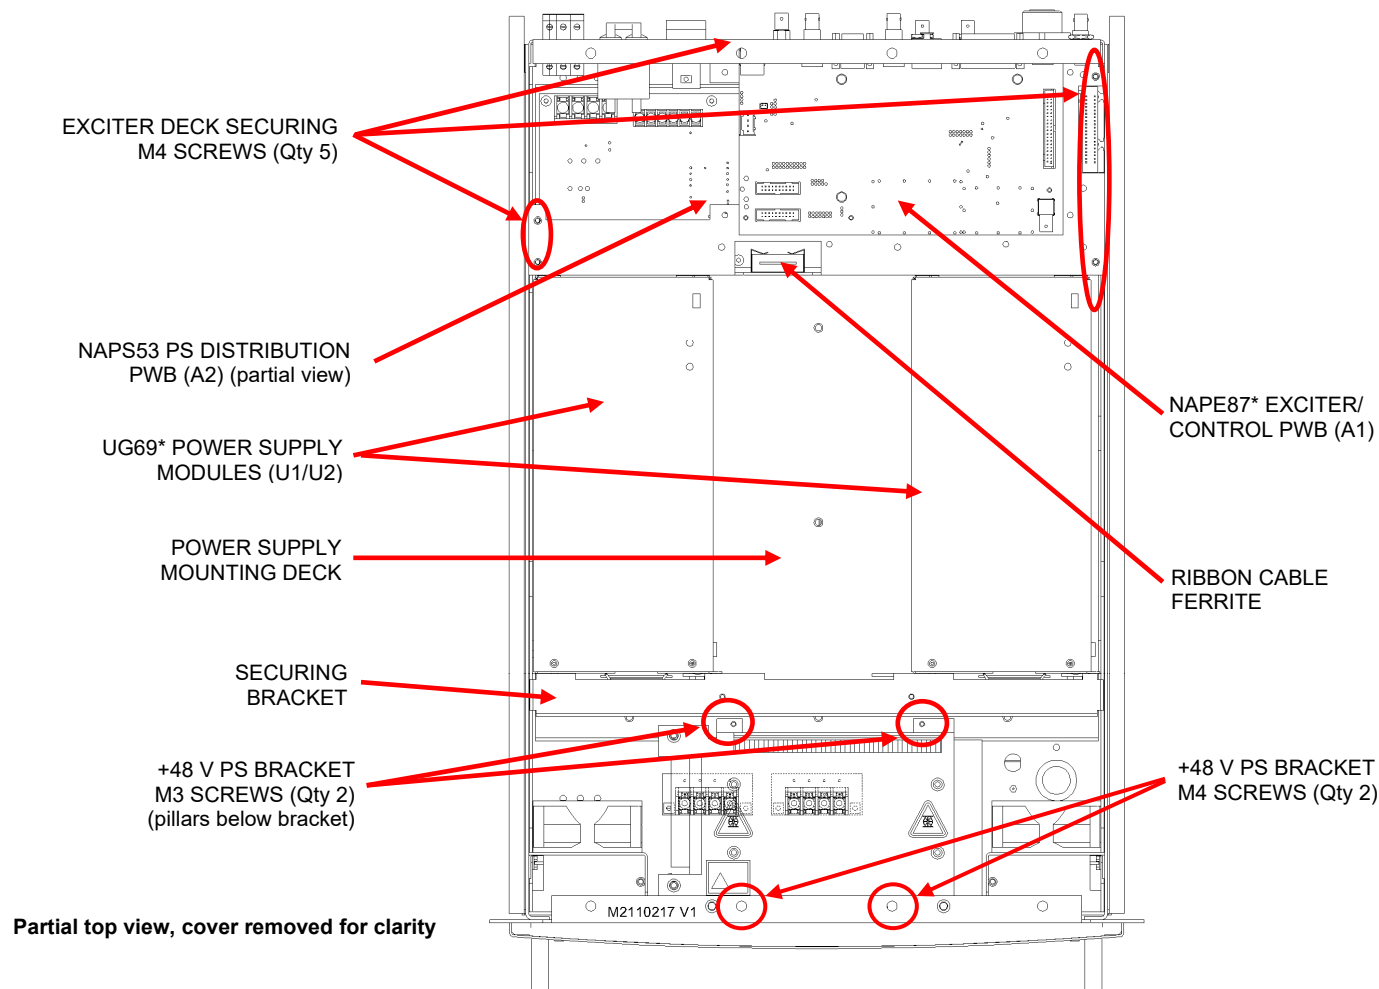
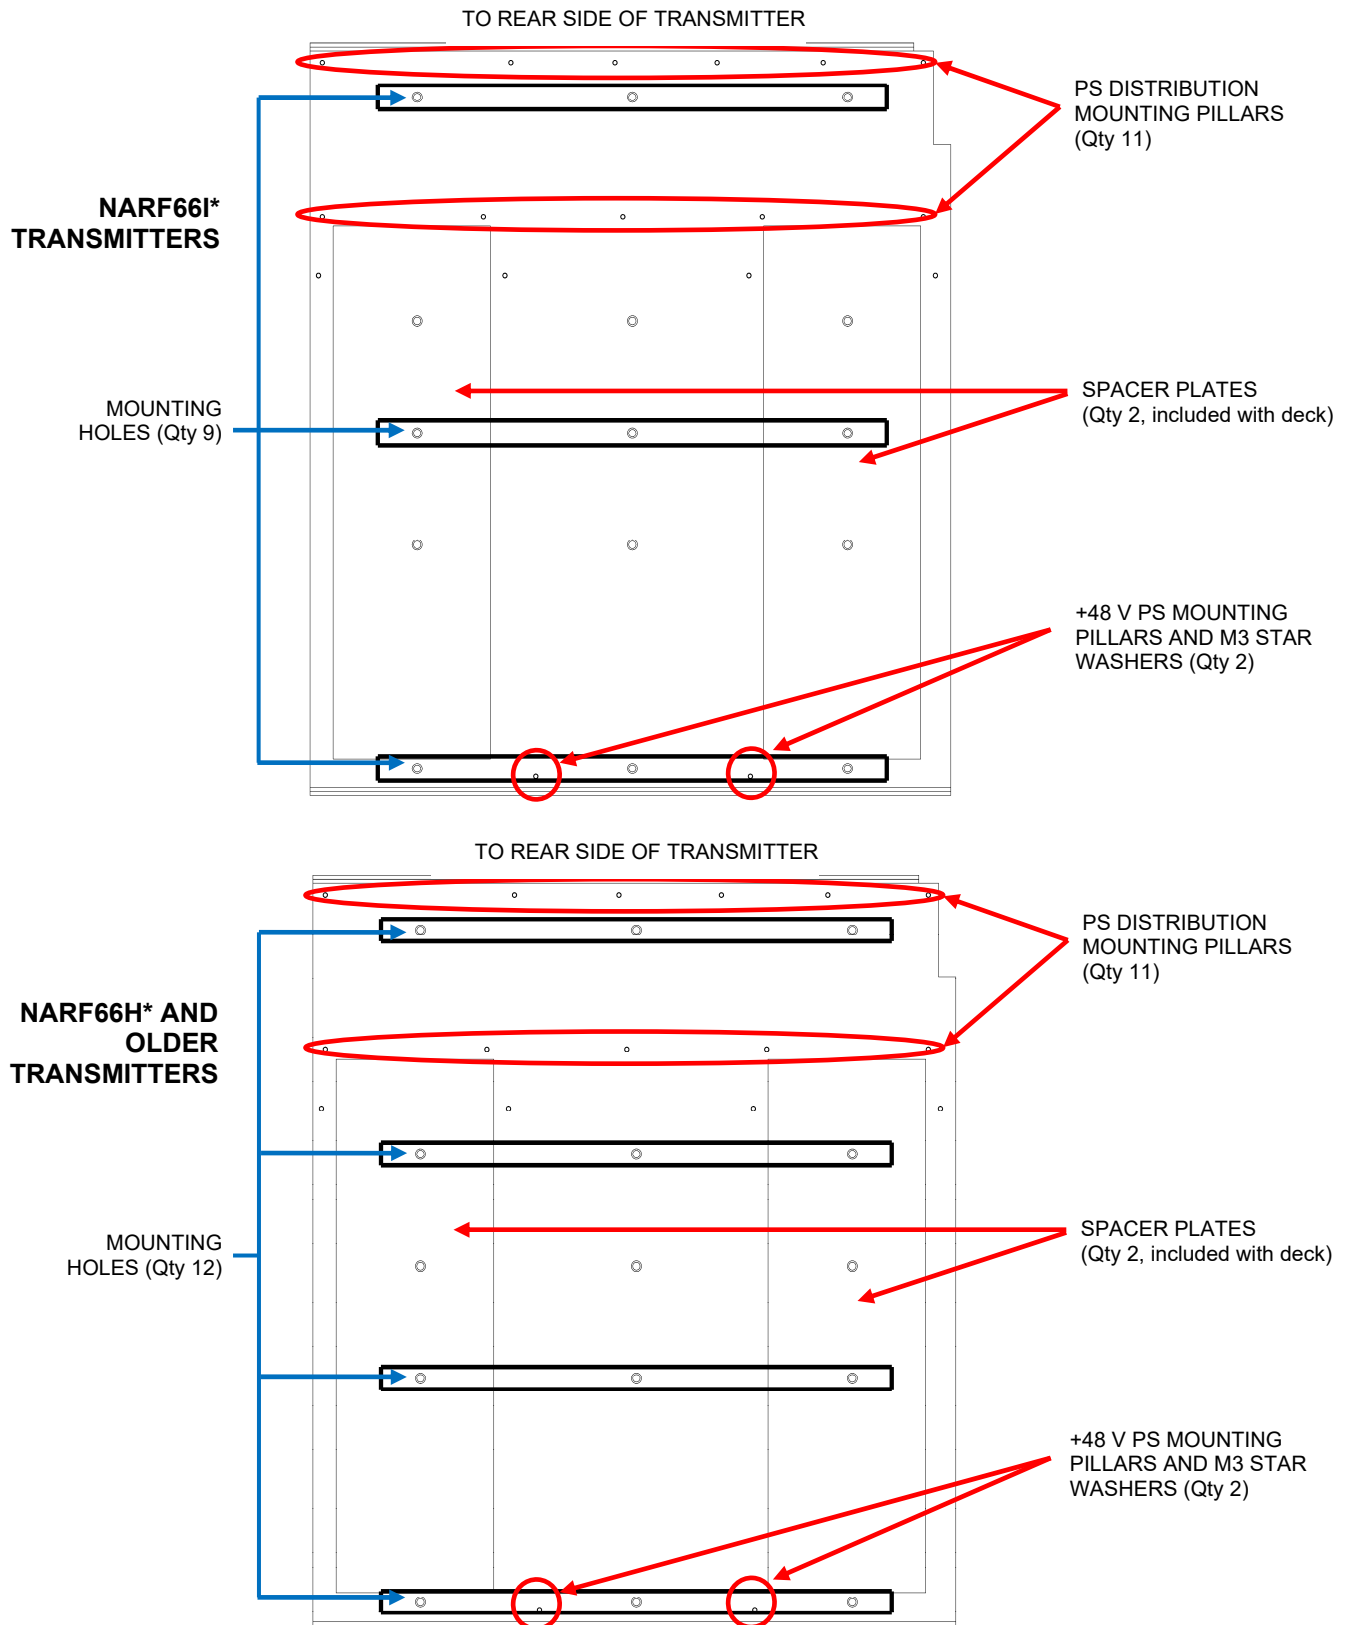

Figure 1: VS2.5 Top View with NAPS53 and UG69*
Figure 3: New Power Supply Mounting Deck
Refer to Figure 1 and Mechanical Drawings MD-1 and MD-4 in Section 6 of the VS2.5's Troubleshooting Manual for reference.
- (b) Remove the securing bracket from the front of the Power Supply Modules (U1 and U2) by removing the two (2) M3 screws in the top of the bracket (see Figure 1) and the two (2) M4 countersunk screws in each side of the transmitter chassis. Discard bracket and retain hardware.
- (f) Remove and retain the five M4 screws that secure the Exciter Deck (see Figure 1).
- (g) Before removing the Exciter Deck, ensure that the exciter wiring and associated items are clear of the Power Supply Distribution PWB and Exciter Deck, cutting tyrap if necessary. Cut the tyrap around the Ribbon Cable Ferrite (see Figure 1) to move the ribbon cables clear of the Exciter Deck and be careful in the following step not to damage the ferrite. Cut the adhesive tape that secures the Ribbon Cable Ferrite bracket to the Exciter Deck. Retain the adhesive tape for re-installation.
- (e) Remove the countersunk M3 screws (nine for NARF66I* transmitters; 12 for NARF66H* and older transmitters) that secure the Power Supply Mounting Deck to the transmitter chassis (see Figure 1 to locate the Power Supply Mounting Deck and see Figure 3 for securing hardware location). Retain hardware for re-installation.
- (f) See Figure 1. Remove and retain the two M3 screws securing the +48 V Power Supply Mounting Bracket to the Power Supply Mounting Deck. Remove and retain the two countersunk M4 screws securing the +48 V Power Mounting Bracket, from just above the front panel, and carefully reposition the +48V PS Mounting Bracket to allow access to the two (2) pillars under the M3 screws. Take care to ensure the +48 V Power Supply's wiring is not damaged.
- (g) Use a 6-mm nut driver to remove the two (2) pillars accessed in step (f). Retain pillars for re-installation. Remove and discard the M3 star washers under the pillars.
- (b) Install 11 of the 12 pillars and washers retained in step 2.2 (h) in the PS Distribution Mounting Pillars positions shown in Figure 3. Install the chafe rail on the rear side edge.
- (c) While ensuring that all wires removed in step 2.2 (c) are clear of the deck area, install the Power Supply Mounting Deck to the transmitter chassis using the M3 countersunk screws (nine for NARF66I* transmitters; 12 for NARF66H* and older transmitters) retained in step 2.2 (e). See Figure 3 for mounting locations for both scenarios.
- (h) Use a 6-mm nut driver to re-install the pillars retained in step 2.2 (g) on the Power Supply Mounting Deck, on top of new M3 star washers (Nautel Part # HMW10) from the Hardware Kit. See Figure 3 for +48 V Power Supply mounting pillar locations.
- (a) While ensuring that exciter wiring, ribbon cable ferrite, and associated items are clear, re-install the exciter deck retained in step 2.1 (h) in the transmitter, by pushing it backward and down. Use five screws retained in 2.1 (f) to secure the exciter deck to the transmitter chassis (see Figure 1). Re-insert tyrap anchors in their original locations, noting there are additional tyrap anchors (Nautel Part # HAC61) in the Field Modification Kit.
- (c) Re-install the Exciter/Control PWB (A1, Nautel Part # NAPE87*), following the steps outlined in Section 1 of the VS2.5 Troubleshooting Manual. See Figure 1 for location and orientation. If an Orban Inside card is installed on the Exciter/Control PWB, it can remain secured to the Exciter/Control PWB during installation.
- (b) Install the new Power Supply Modules in the transmitter and slide them toward the rear of the transmitter to engage them with their mating connectors. Note that the Power Supply Modules should be resting on their respective Spacer Plates (see Figure 3) when correctly positioned.